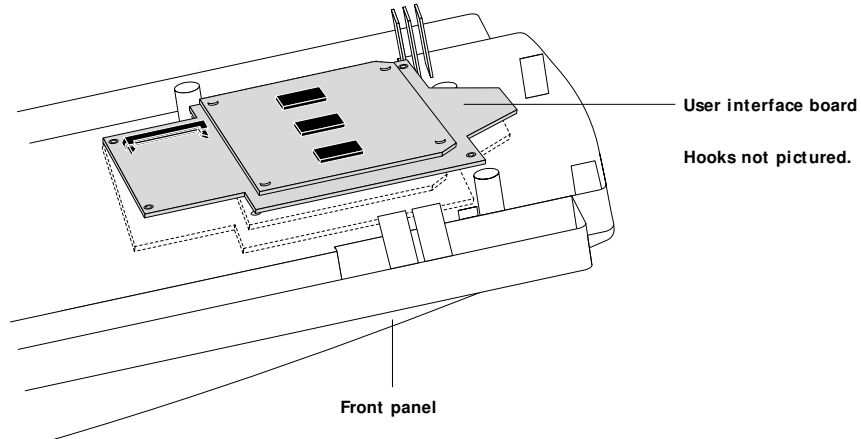

FIGURE 4-16 Removing the user interface board
7. While pushing outward on the snap tabs, lift up one side of the user interface board and slide it out of the hooks (see Figure 4-16).
1. Place the user interface board in the front panel at an angle so that the edge of the board fits under the hooks in the front panel (see Figure 4-16).